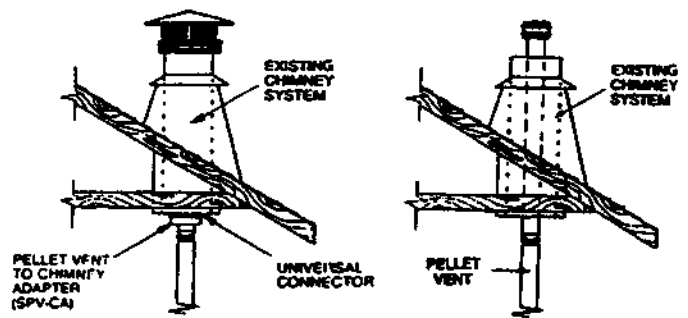

Figure 5
C. VERTICALLY INTO EXISTING CHIMNEY SYSTEM (See Figure 5)